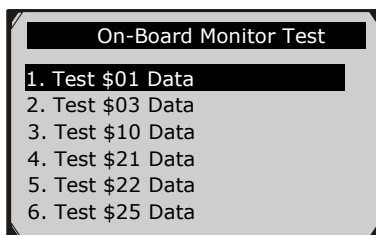

Figure 6-27
- 5) From **On-Board Monitor Test** menu, use the **UP/DOWN** scroll button to select a test to view and press the **OK** button. (Figure 6-27)